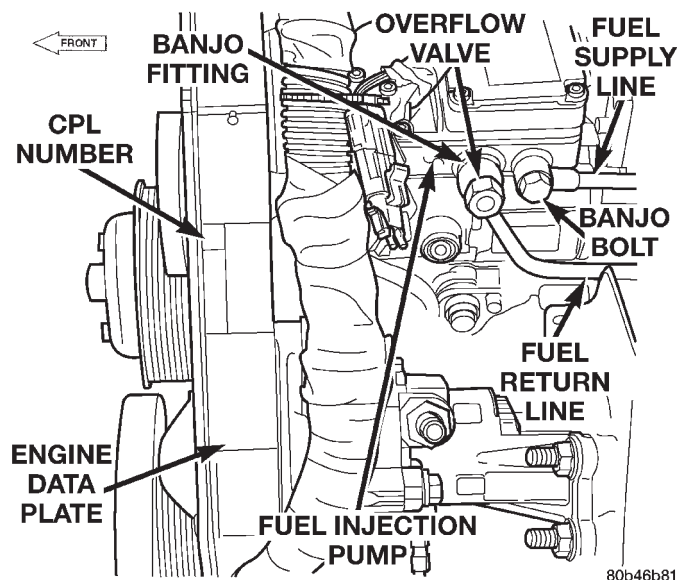

Fig. 37 Fuel Supply Line Banjo Bolt
(1) Loosen, but do not remove, banjo bolt holding low-pressure fuel supply line to side of fuel injection pump (Fig. 37). Place a shop towel around banjo fitting to catch excess fuel.
(7) Perform previous air bleeding procedure steps using fuel transfer pump. Be sure fuel is present at fuel supply line (Fig. 37) before proceeding.
(8) Crank the engine for 30 seconds at a time to allow air trapped in the injection pump to vent out the drain manifold.